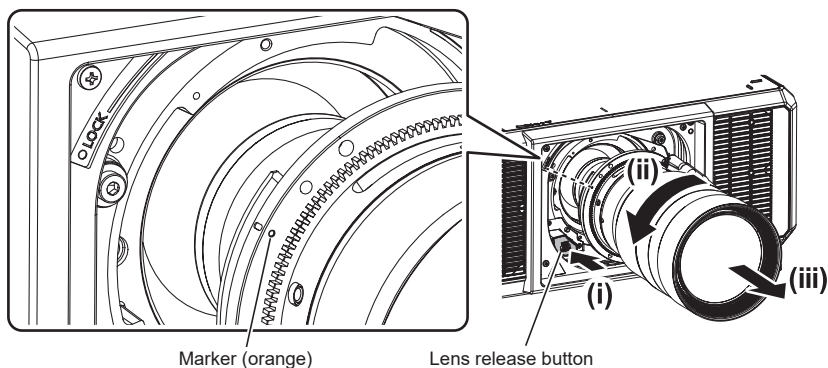

Fig 1
2) While pressing the lens release button, turn the projection lens counterclockwise as far as it will go and then detach the projection lens (Fig 1).